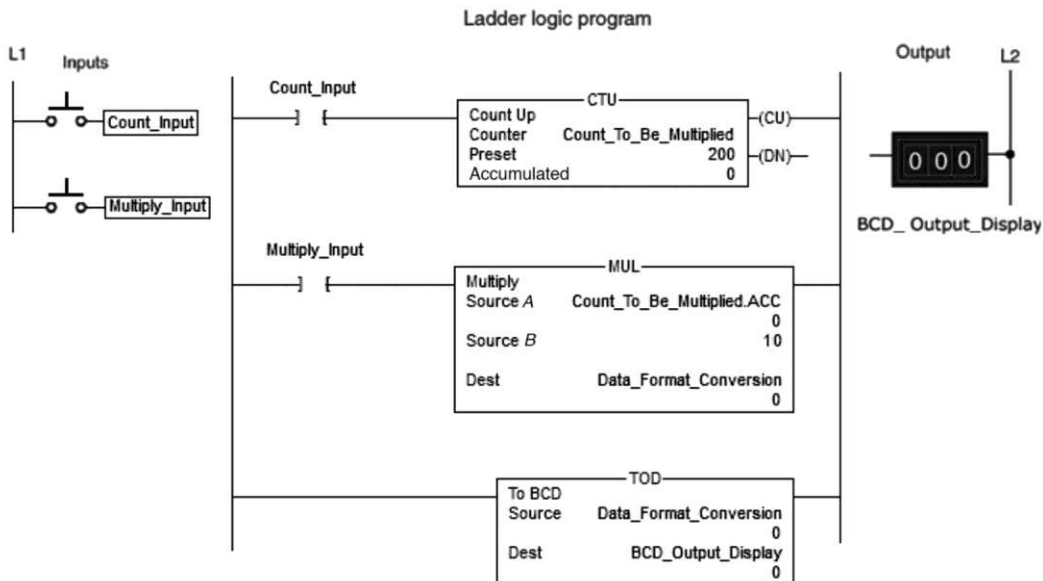

Figure 11-35 Multiply instruction program for assignment 15.
15) Figure 11-35 shows an example of the Multiply (MUL) instruction used to multiply the Accumulated value present in a counter.